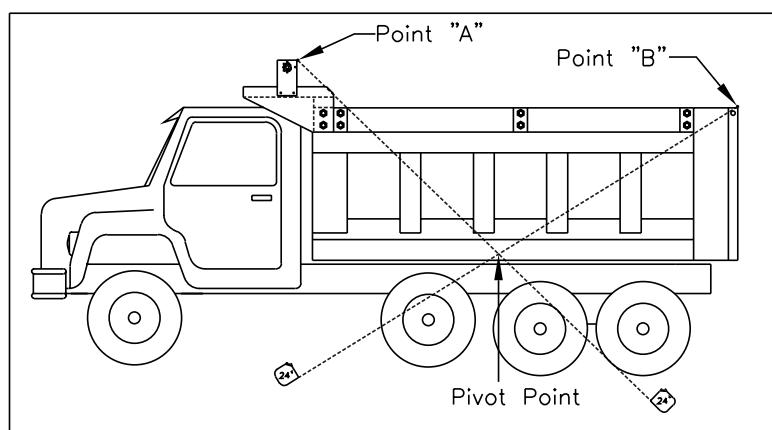

FIGURE 1
- 1) To find the pivot point, pull one tape measure from point "A" and a separate tape measure from point "B". Next, cross the tape measures at the bottom-middle of the truck body where the two measurements are equal. Mark the spot beneath where they cross. This is your pivot point. (See Figure 1)
- 2) Use the underbody spring assembly as a guide to determine the hole position for mounting. Ensure the center of the mounting plate is aligned with the pivot point as shown in figure 1. Drill two 9/16" holes in line with the holes in the pivot mount.